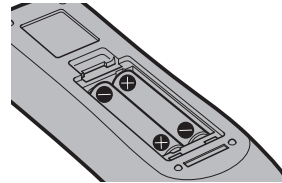

Fig. 2
- 2) **Insert batteries and close the cover (insert the "m" side first). (Fig. 2)**